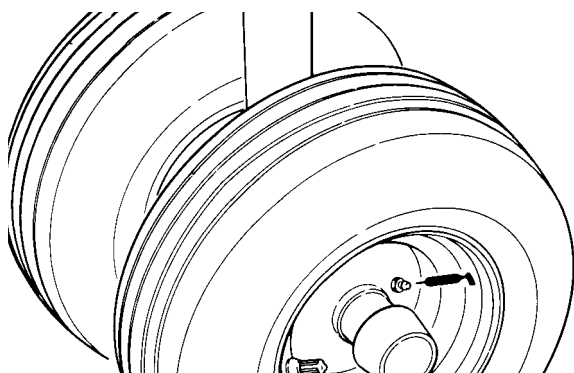

Figure 25
2. Position a drain pan under the chassis below the pump assembly (Fig. 25).